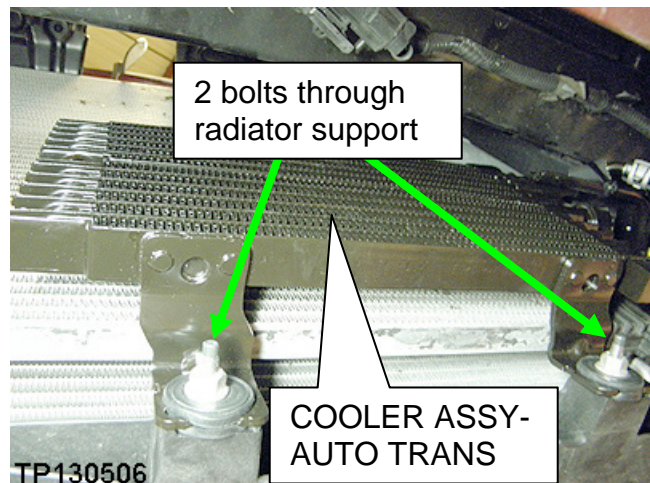
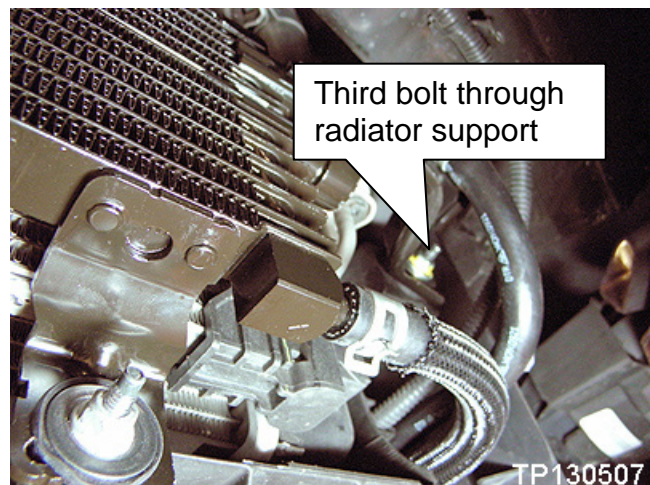

Figure 5
Figure 6
a. Insert 3 bolts (Figure 5 and Figure 6) from the kit through the composite radiator support from the engine compartment side.
NOTE: Figure 5 is a view of the front of the radiator/condenser, taken from the bottom looking up.
3. Route both hoses through the radiator support shown in Figure 6.